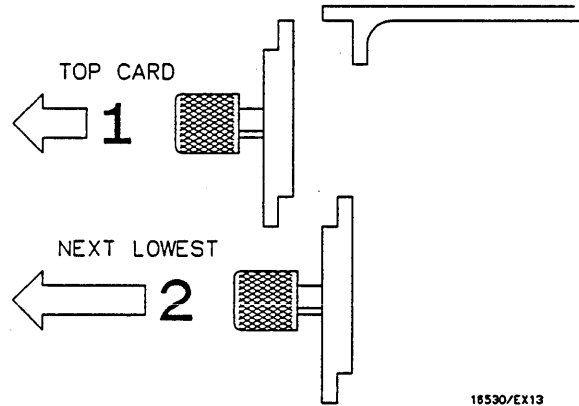

Figure 6-24. Endplate Overhang
- Starting from the top, begin pulling filler panel(s) and card(s) out half way. See figure 6-24.